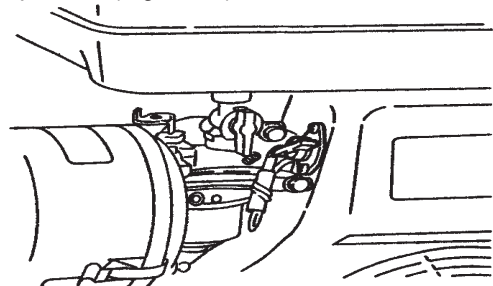

Figure 16. Engine ON/OFF Switch (OFF)
- After the engine **cools**, turn the engine ON/OFF switch to the "**OFF**" position (Figure 16).